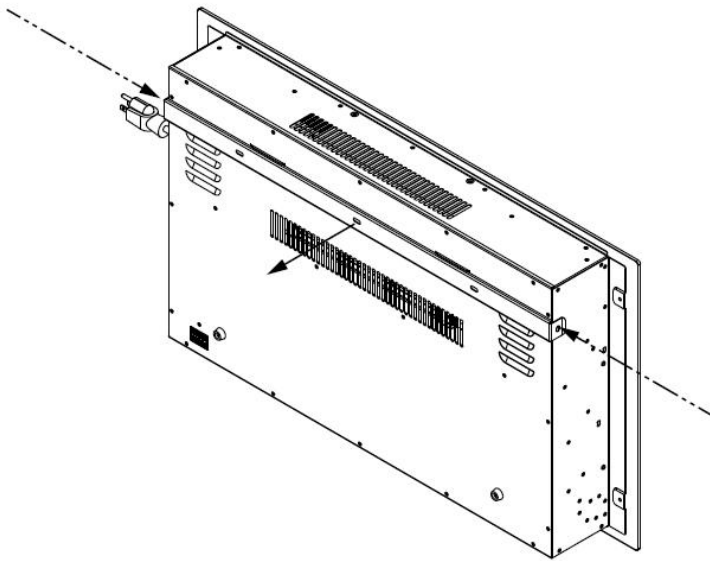
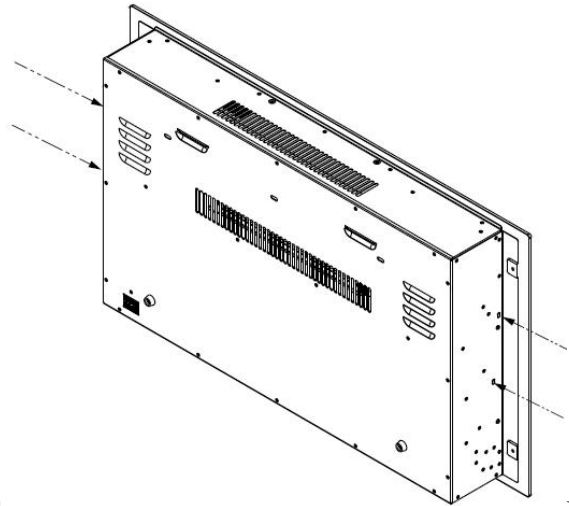

Fig.1
Fig.2
C. Place unit face down on a soft, non abrasive surface. Remove the bracket from the back of the unit by removing the screws, refer to Figure 1. Remove four pcs of silver screws at both sides, refer to Figure 2.
- B. If your fireplace come with lotset, remove the logset from the package, put it to the fireplace designed place. Figure 1.